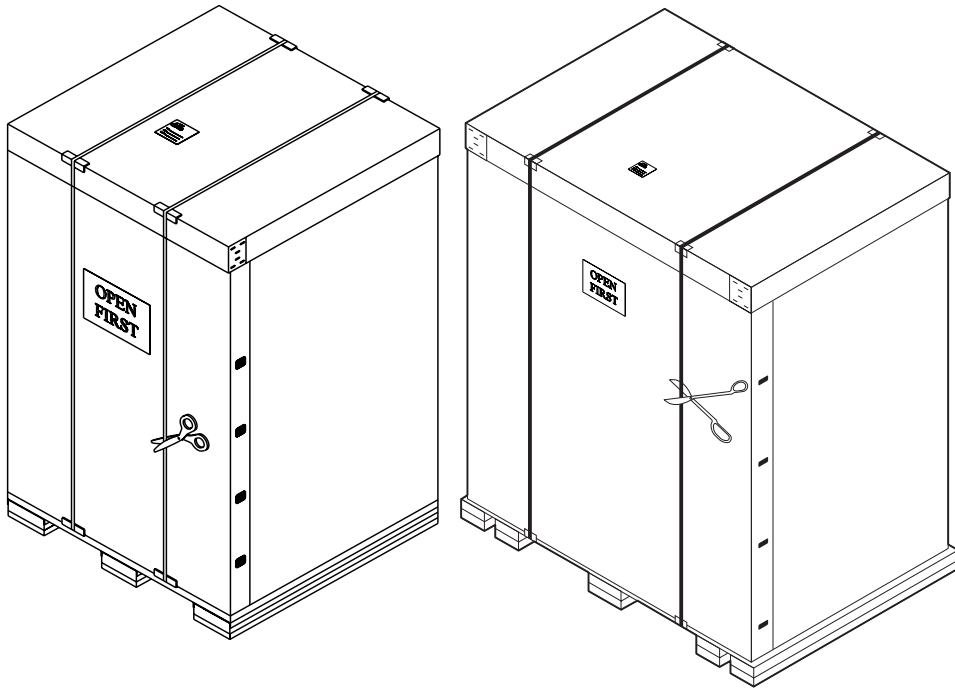

Figure 4-2. Removing the steel bands
- Using metal shears, cut the two steel bands that secure the library and packing material to the pallet (see Figure 4-2).